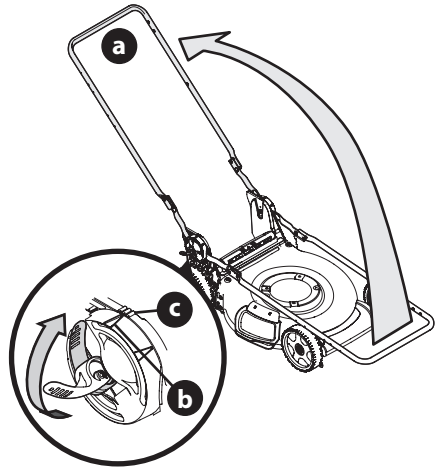

Figure 9
- While stabilizing mower so it doesn't move, lift the upper handle up (a) (Figure 9). Do not crimp blade control cable while lifting the handle up.
- When lifting the upper handle ensure the position indicator (b) aligns with one of three handle positions (c). See inset, Figure 9.
- Lock the two handle release levers. See inset, Figure 9.